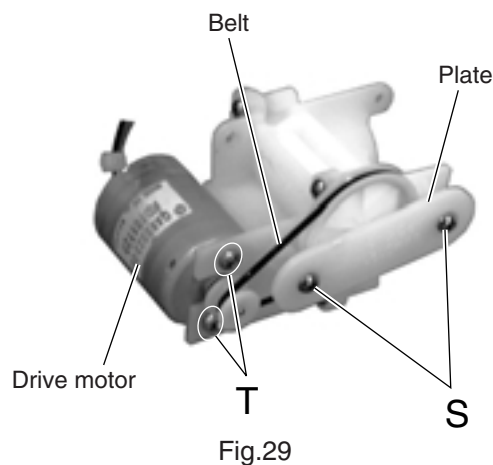

Fig.29
■ Removing the belt and the drive motor (See Fig.29)